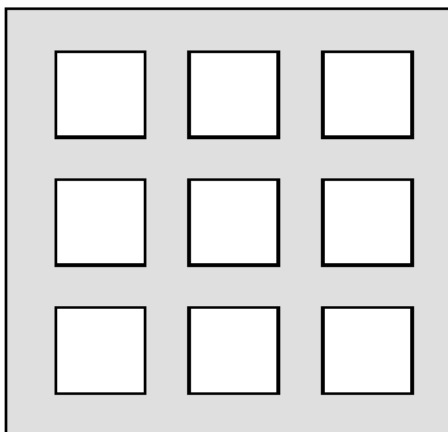

Figure 16: Solder paste application on exposed pad
3. For the PCB thermal pad, solder paste should be printed on the PCB by designing a stencil with an array of smaller openings that sum to 50% of the QFN exposed pad area. Solder paste should be applied through an array of squares (or circles) as shown in Figure 16.